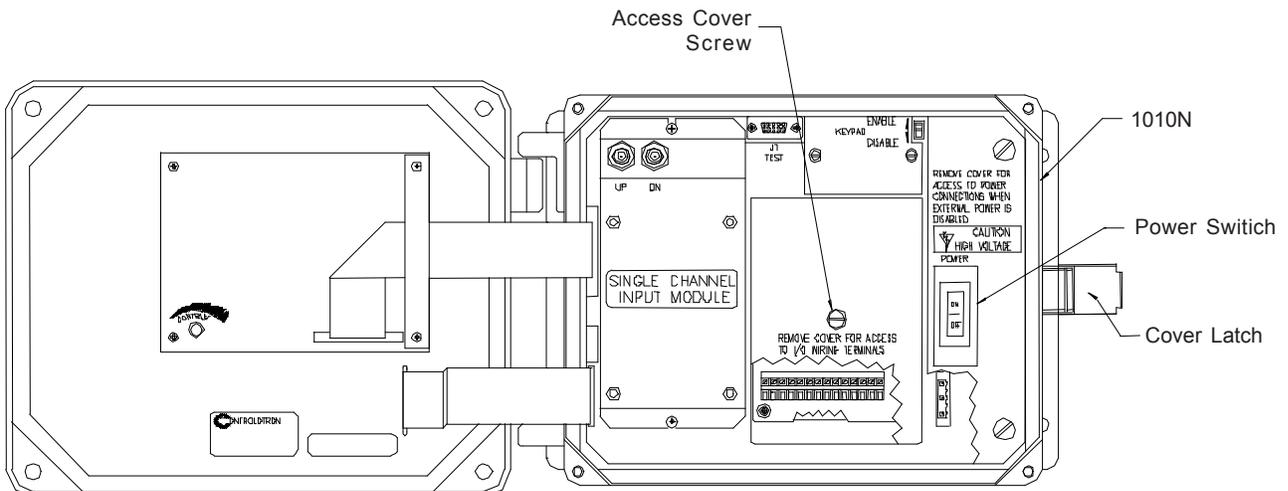
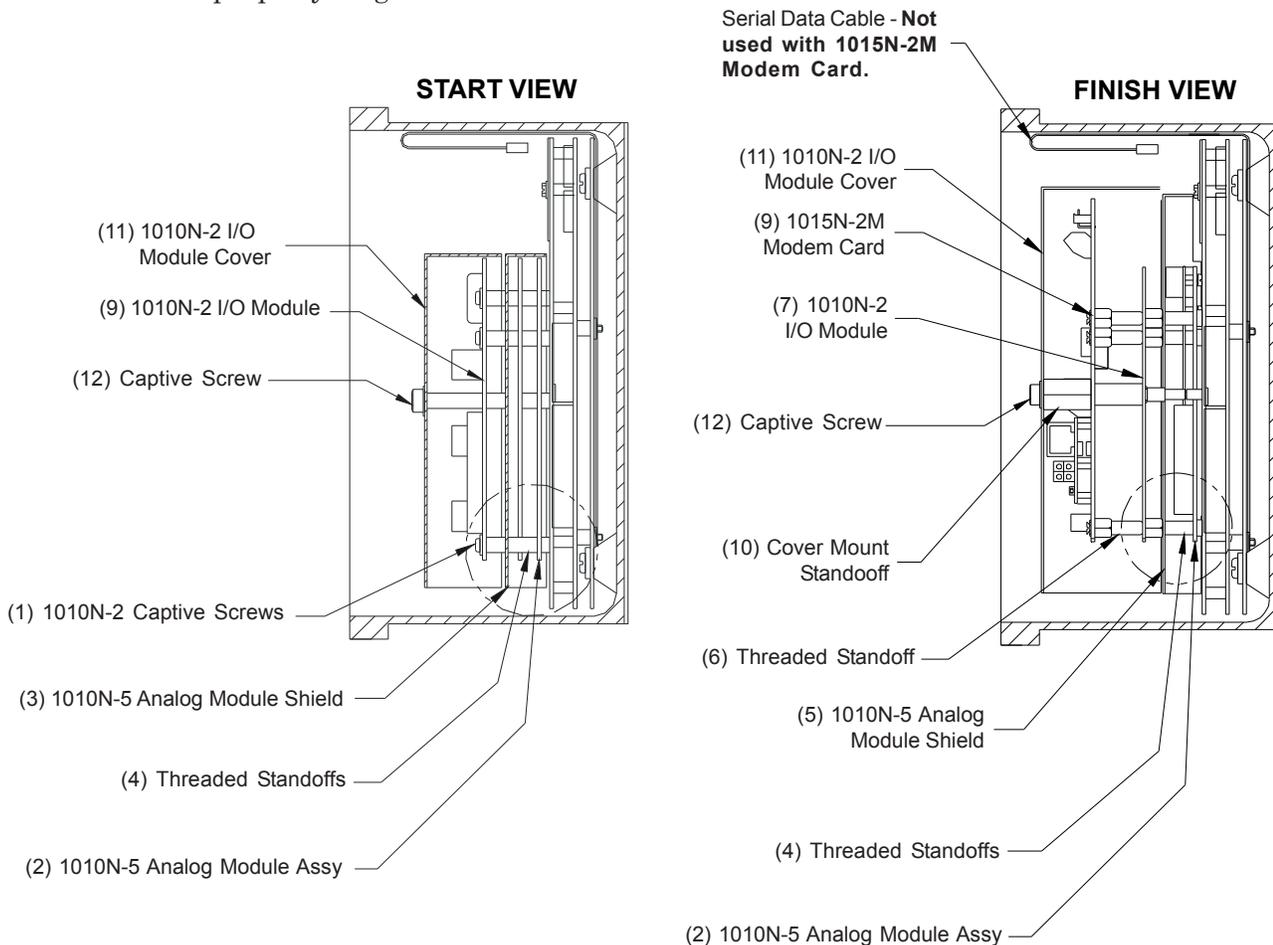
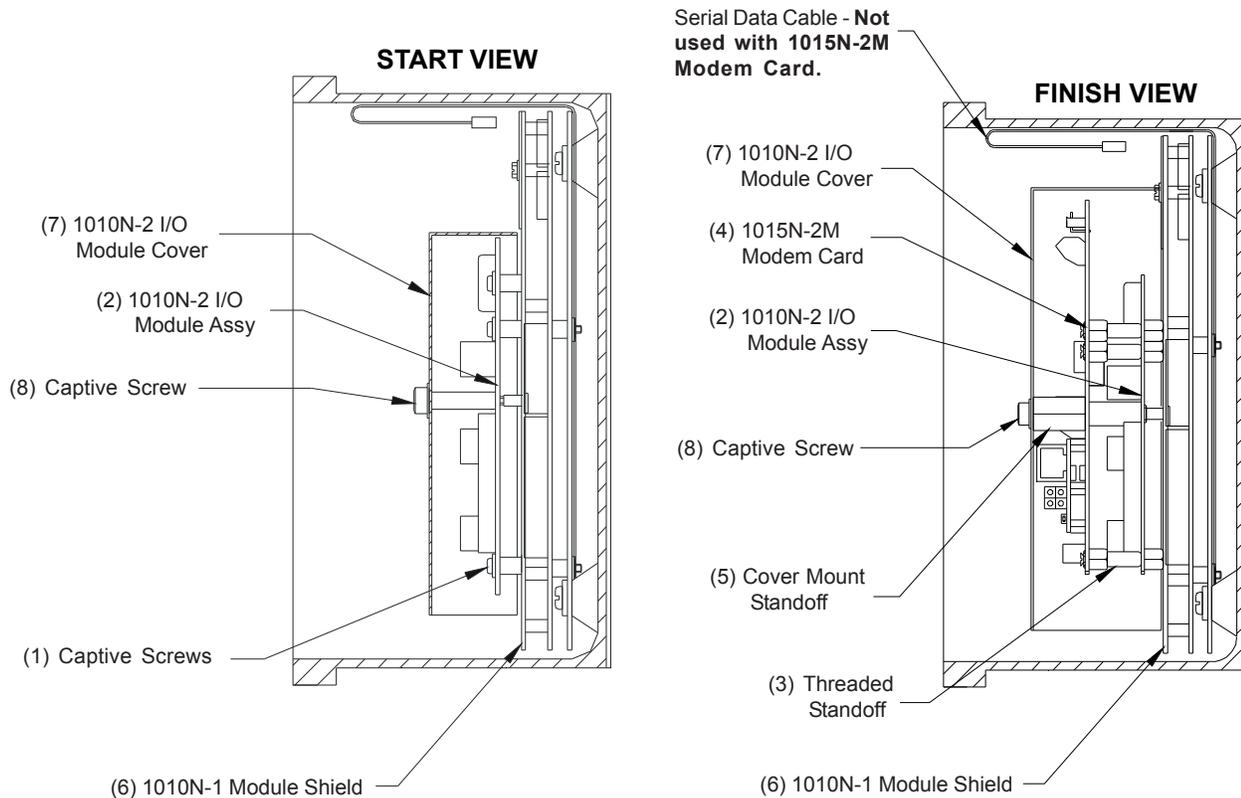
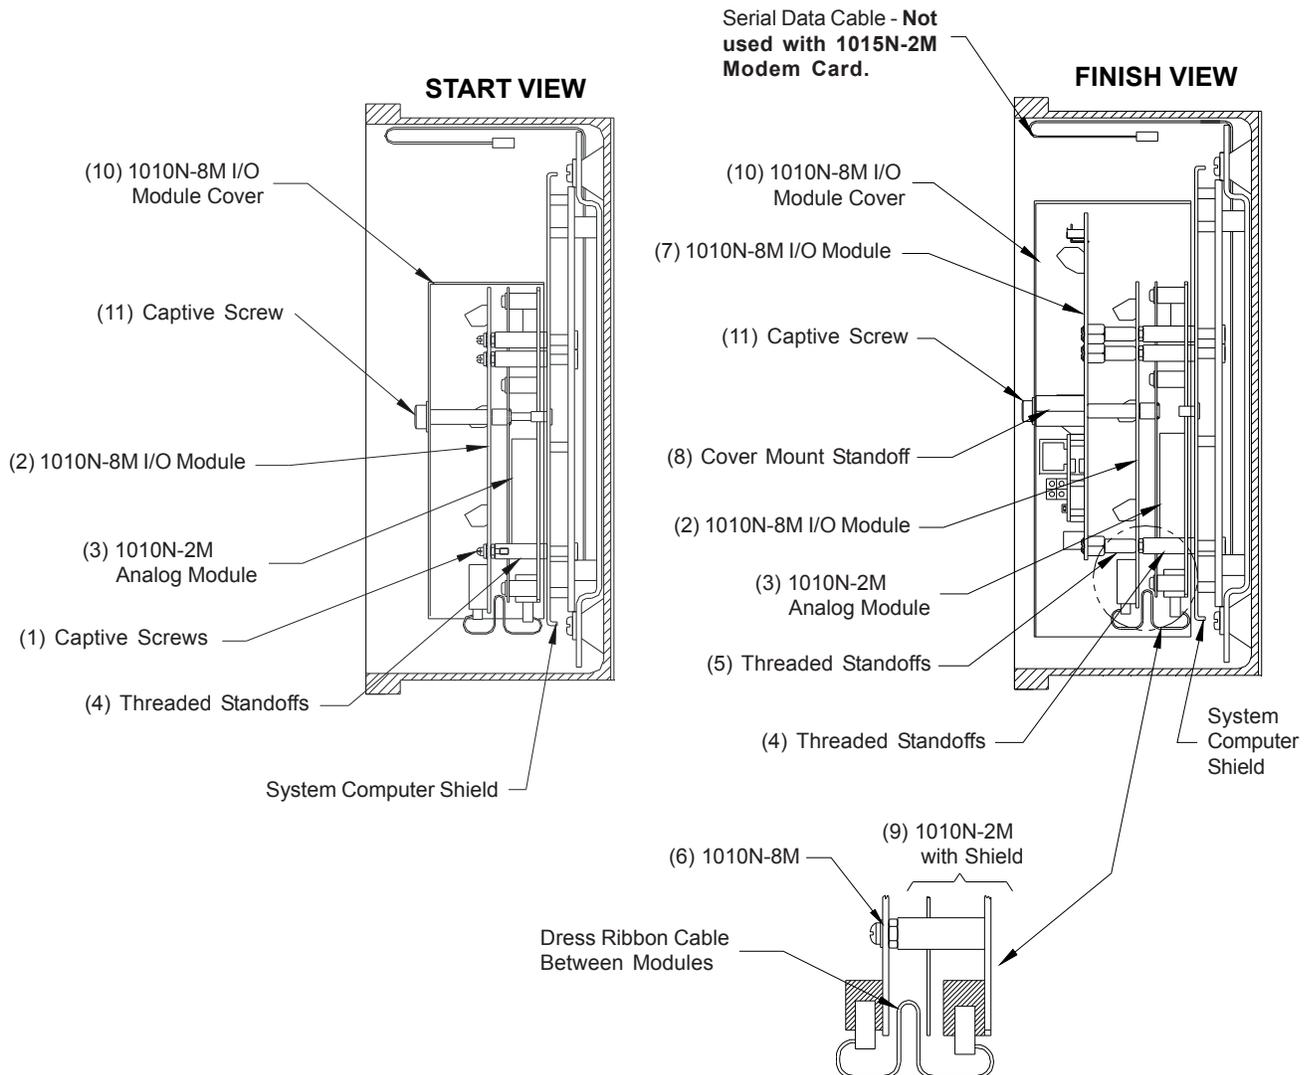

Figure 2. 1010N Flowmeter Access Cover Removal
Figure 3. Option 1 Installation (side view)
Figure 4. Option 2 Installation (side view)
Figure 5. Option 3 Installation (side view)
DISASSEMBLY (see Figure 2 and Figure 3)
ASSEMBLY (see Figure 3)
DISASSEMBLY (see Figure 2 and Figure 4)
1. Referring to Figure 2 above, open the 1010 NEMA flowmeter top cover by releasing the cover latch.
ASSEMBLY (see Figure 4)
DISASSEMBLY (see figure 2 and figure 5)
4. Loosen the four captive screws (1) at the corners of the 1010N-8M module (2) and carefully lift out the module disengaging it from the ribbon cable connecting it to the 1010N-2M module (3).
5. Leave the 1010N-2M module in place. Check to assure that the four corner standoffs (4) are securely threaded in place.
ASSEMBLY (see Figure 5)